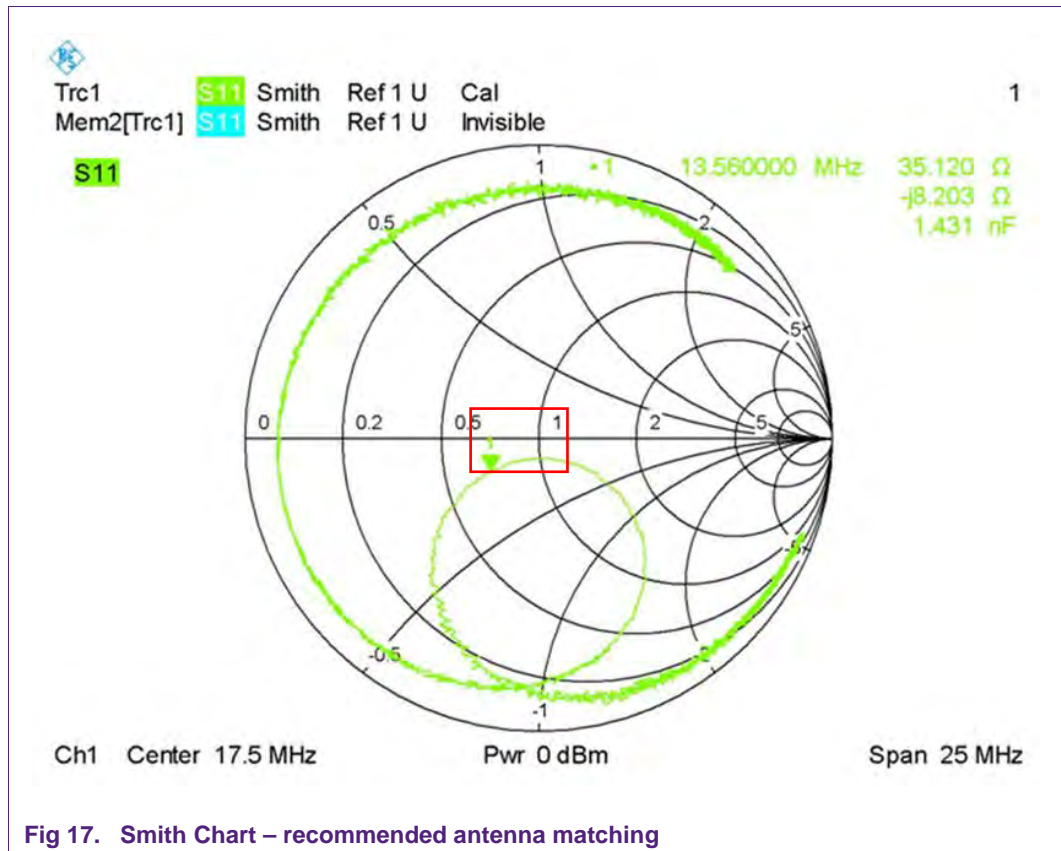

Fig 17. Smith Chart – recommended antenna matching
The area in the red rectangle (Fig 17) shows the recommended impedance range.
- b) In order to be compliant to NFC standard specification the orientation (angle) of the Z circle is important (see Fig 17)